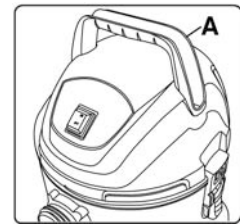

FIGURE 5
- 2) Make sure the handle (A) Fig.5 is pushed in all the way and secure it into place using the supplied screws and a screwdriver.